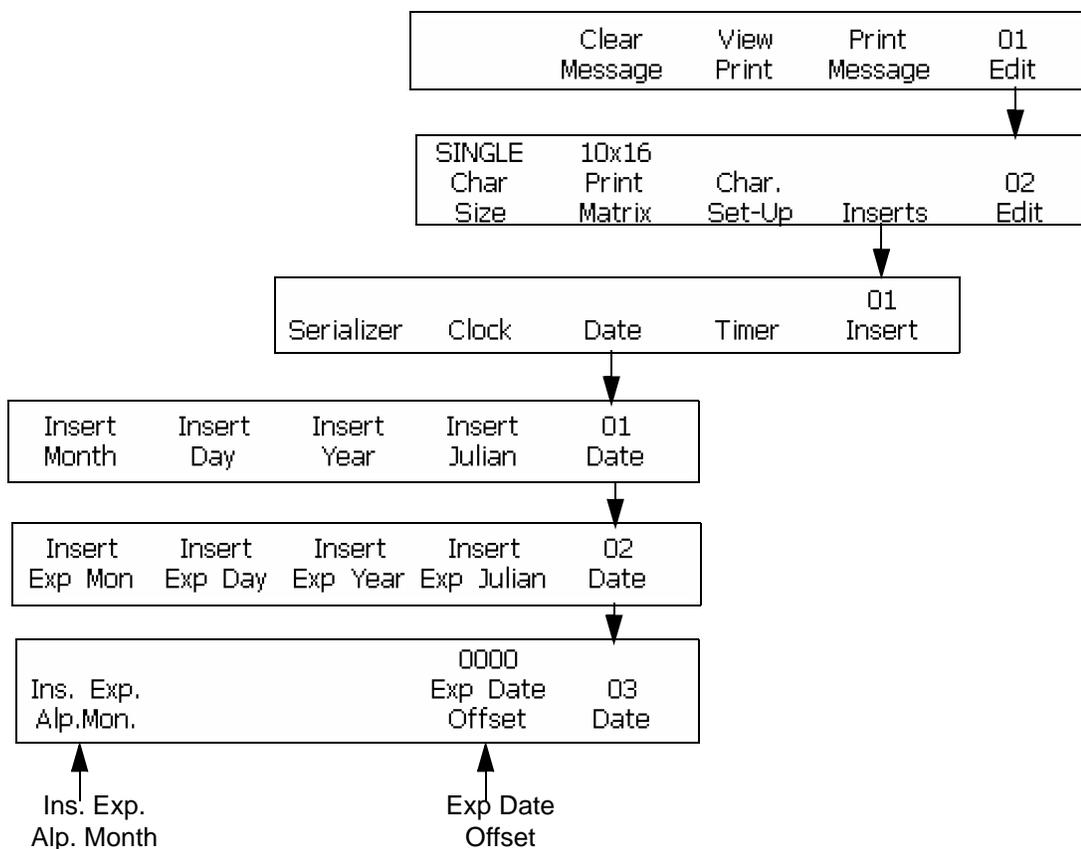

Figure 6-34: Accessing Frame <03 DATE>
- 1 Begin in the Frame <03 Date>. Refer to Figure 6-34.